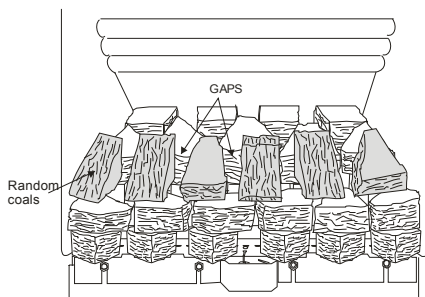

Figure 27
8. The next step is to place further **6 Random Coals** in such a way that they are bridging between the front coals and the coals placed in step 1. Leave gaps between coals. Ensure that none of the coals fall onto the burner. See **Figure 27** for the layout.